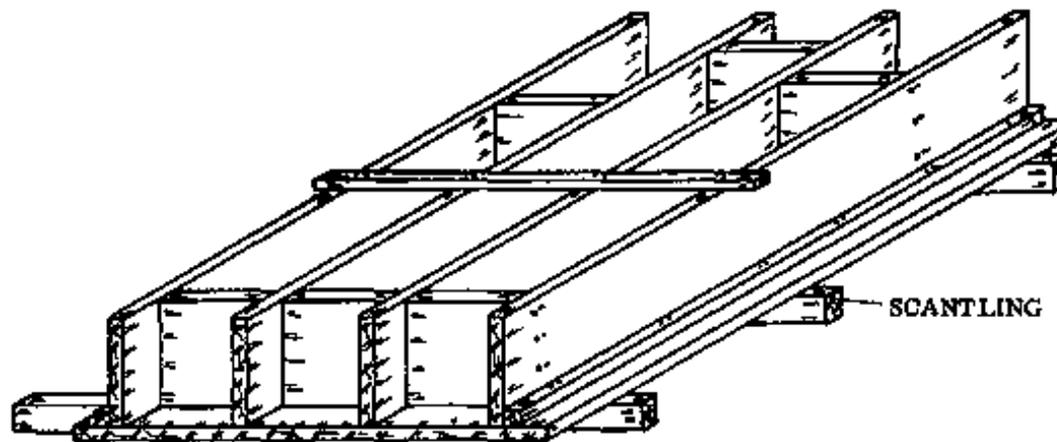

**Fig. 1 CAST-IN-SITU**
- **CAST-IN-SITU:** This method is the most common one in Rural Building. The lintel is cast in situation; in the place where it is needed (Fig. 1). The advantage of this method is that no soffit board is needed for the form, because the head of the door frame acts as the bottom of the form, provided that the frame has been installed already. A further advantage is that any roof anchorage, if needed here, can easily be inserted into the reinforcement cage at the correct position.